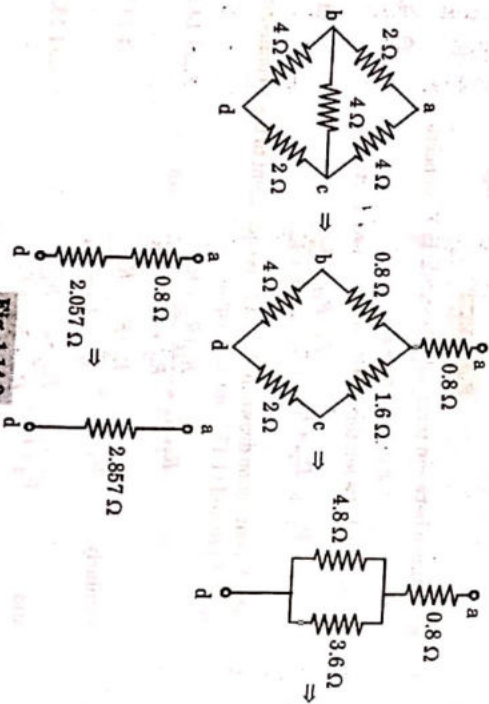

Fig. 1.14.2.
1. Applying delta to star transformation, we get Fig. 1.14.2.